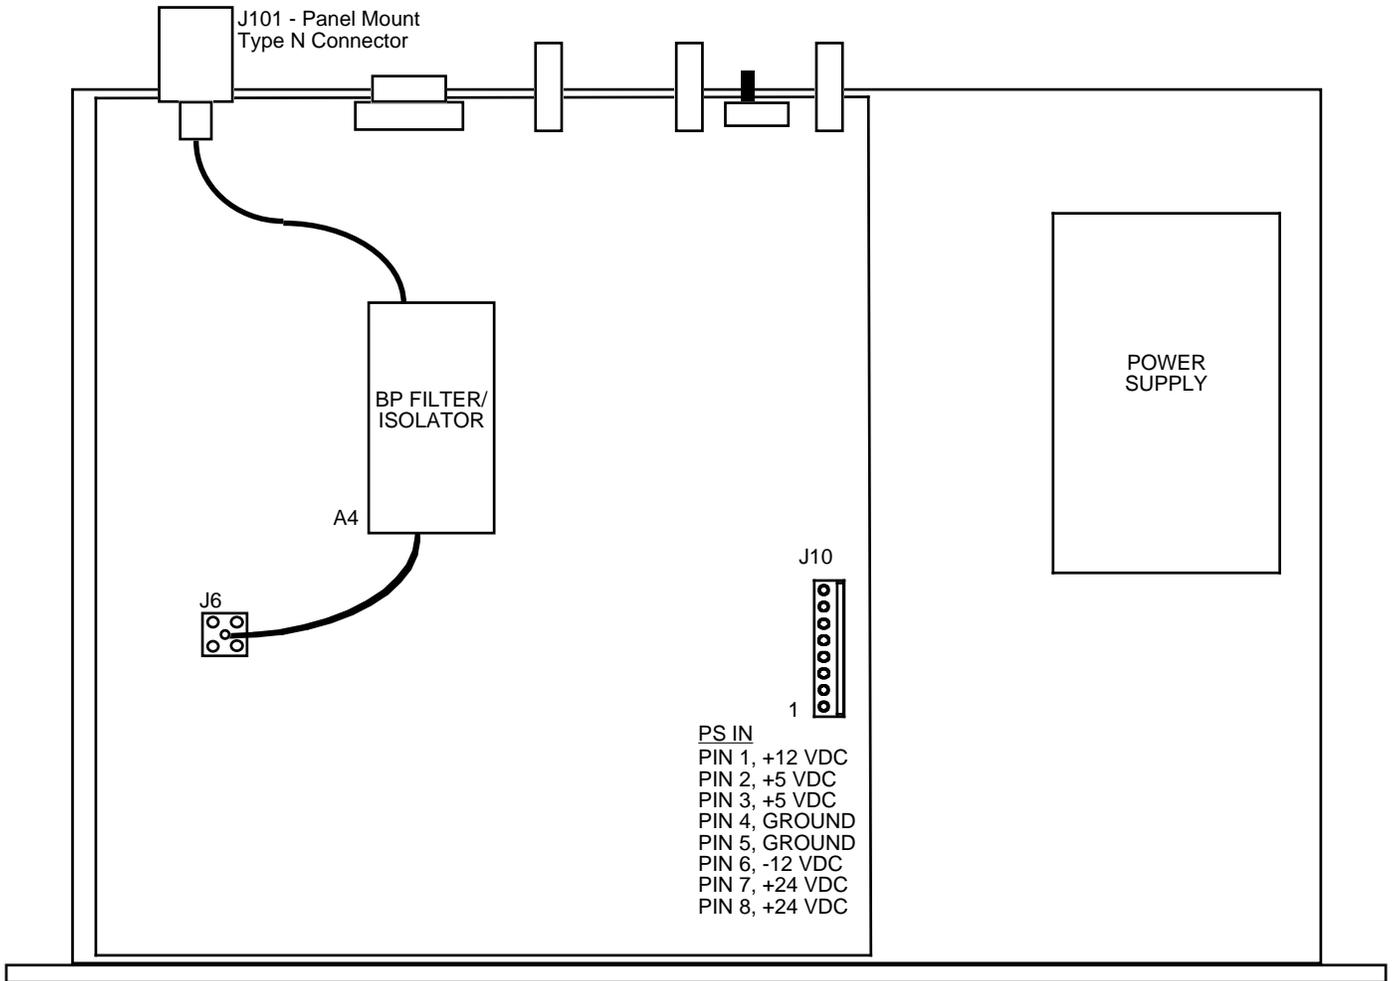

FIGURE 2.0 2116-37 Mechanical Assembly
2.1 Mechanical - The 2116-37 consists of one RF PCB housed in a 1 RU (1 3/4 inch high) by 14 inch deep chassis. A switching, ± 12 , +24, +5 VDC power supply provides power for the assemblies. The 2116-37 can be secured to a rack using the 4 holes on the front panel. Figure 2.0 shows how the 2116-37 is assembled.